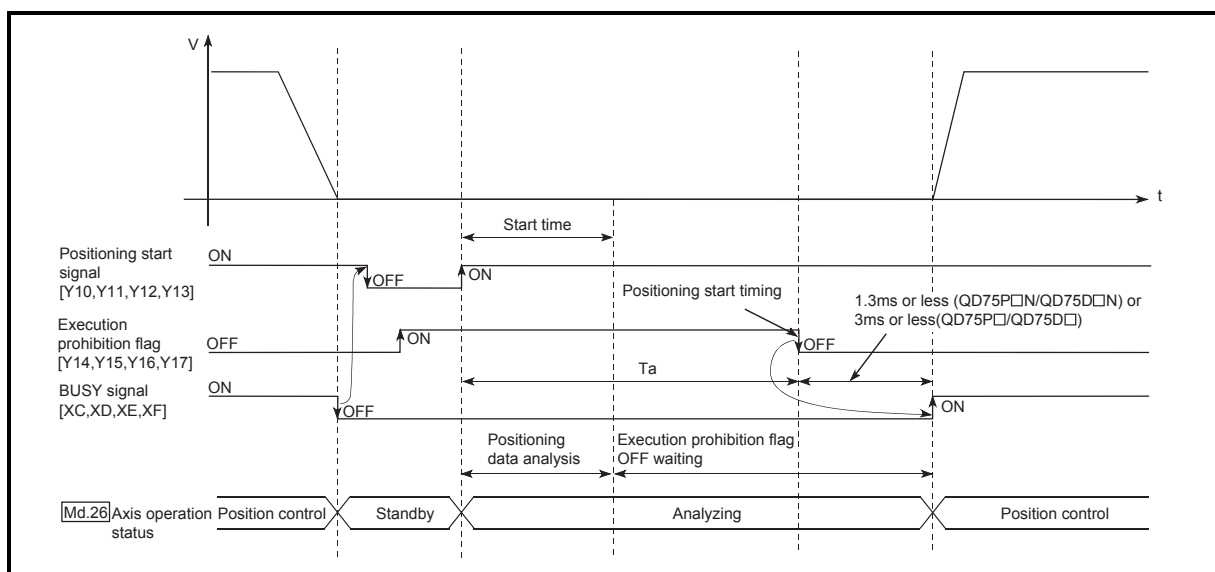

Fig. 12.52 Operations of pre-reading start function
The pre-reading start function is performed by turning ON the positioning start signal [Y10, Y11, Y12, Y13] with the execution prohibition flag [Y14, Y15, Y16, Y17] ON, or by executing the dedicated instruction (ZP.PSTRT1, ZP.PSTRT2, ZP.PSTRT3, ZP.PSTRT4). However, if positioning is started with the execution prohibition flag ON, the positioning data is analyzed but pulse output is not provided. While the execution prohibition flag is ON, "Md.26 Axis operation status" remains unchanged from "5: Analyzing". Pulse output starts within 1.3ms (QD75P□N/QD75D□N) or 3ms (QD75P□/QD75D□) after the execution prohibition flag [Y14, Y15, Y16, Y17] has turned OFF, and "Md.26 Axis operation status" changes to the status (e.g. "Position control", "Speed control") that matches the control system. (Refer to Fig. 12.52)
Hence, pre-reading of the next data starts during the stop time T_w . If T_w is a certain period of time, the analysis of the next data is completed during that period, and the system is placed in an execution prohibition flag OFF waiting status. Therefore, replacing the positioning start timing at ② with the execution prohibition flag OFF allows the time from when the axis operation request turns ON until pulse output starts to be reduced to within 1.3ms (QD75P□N/QD75D□N) or 3ms (QD75P□/QD75D□) in the sequence program. (Refer to Fig. 12.52.)
- (1) The time required to analyze the positioning data is up to 7ms.
- (2) After positioning data analysis, the system is put in an execution prohibition flag OFF waiting status. Any change made to the positioning data in the execution prohibition flag OFF waiting status is not reflected on the positioning data. Change the positioning data before turning ON the positioning start signal.
- (3) The pre-reading start function is invalid if the execution prohibition flag is turned OFF between when the positioning start signal has turned ON and when positioning data analysis is completed ($T_a < \text{start time}$, T_a : Refer to Fig. 12.52).
- (4) The data No. which can be executed positioning start using "Cd.3 Positioning start No." with the pre-reading start function are No. 1 to 600 only. Performing the pre-reading start function at the setting of No. 7000 to 7004 or 9001 to 9004 will result in an error "Outside start No. range" (error code: 543).
- (5) Always turn ON the execution prohibition flag at the same time or before turning ON the positioning start signal. Pre-reading may not be started if the execution prohibition flag is turned ON during T_a after the positioning start signal is turned ON. The pre-reading start function is invalid if the execution prohibition flag is turned ON after positioning start (pulse output) with the execution prohibition flag OFF. (It is made valid at the next positioning start.)